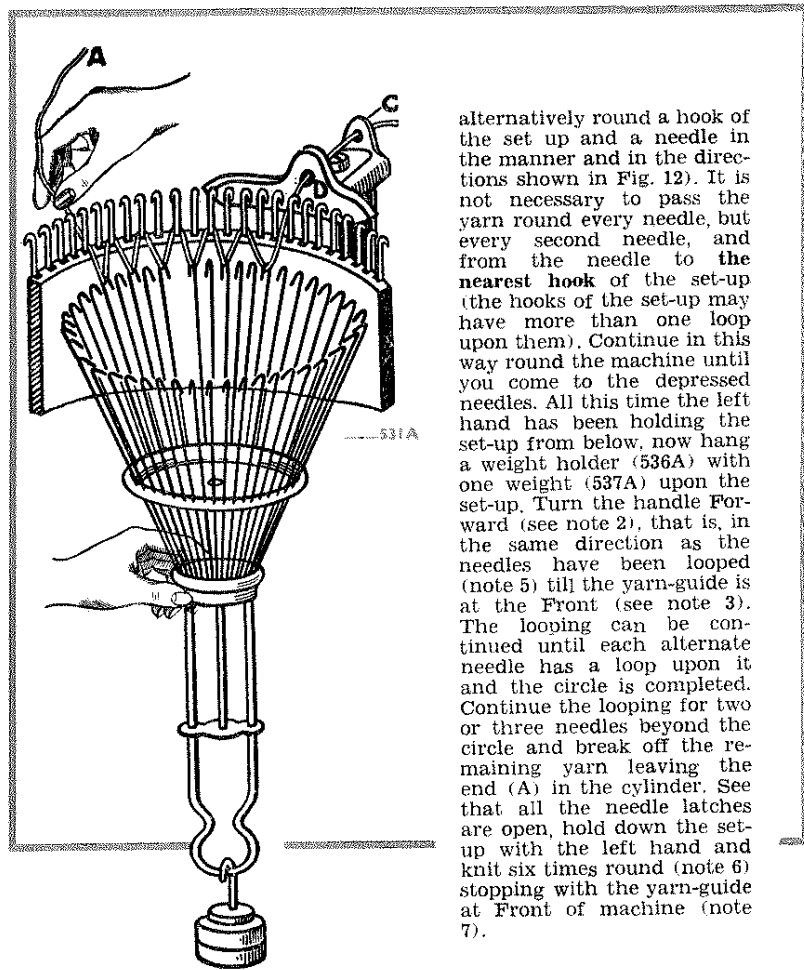

Fig. 12
Place a needle with its latch open, that is, pointing downwards, in each cylinder groove. Set the cylinder pointer (512E) at about 3 for 4-ply fingering wool (note 1). Turn the handle of machine forward (note 2) till the yarn-guide is at the **Back** (note 3) of cylinder. Place a bobbin of wool on the table immediately below one of the rear holes in the yarn cross (517A). Pass the yarn upwards through the holes then through the hole in the yarn cross immediately above the column, under the yarn lock and down through the centre hole to the yarn-guide. Now pass the yarn through C and D of the yarn-guide (Fig. 12). Draw into the cylinder about 1½ yards of loose yarn. Take this in the right hand, and with the left pass the set up (513A, Fig. 12) from below into the cylinder, with the hooks just below the level of the cylinder top (Fig. 12). With the right hand take hold of the loose yarn near to the yarn guide (that is, about 1½ yards from its end A, and pass it
alternatively round a hook of the set up and a needle in the manner and in the directions shown in Fig. 12). It is not necessary to pass the yarn round every needle, but every second needle, and from the needle to the nearest hook of the set-up (the hooks of the set-up may have more than one loop upon them). Continue in this way round the machine until you come to the depressed needles. All this time the left hand has been holding the set-up from below, now hang a weight holder (536A) with one weight (537A) upon the set-up. Turn the handle Forward (see note 2), that is, in the same direction as the needles have been looped (note 5) till the yarn-guide is at the Front (see note 3). The looping can be continued until each alternate needle has a loop upon it and the circle is completed. Continue the looping for two or three needles beyond the circle and break off the remaining yarn leaving the end (A) in the cylinder. See that all the needle latches are open, hold down the set-up with the left hand and knit six times round (note 6) stopping with the yarn-guide at Front of machine (note 7).
Turn handle slowly Forwards and stop when yarn-guide is about opposite the sixth empty groove from the first needle in action on the **Left**. Thread the yarn-guide with the odd yarn as directed in setting up for Circular Work, draw off about a yard of yarn through yarn-guide, pass yarn direct from yarn-guide outside the end or first needle at **Left**, under hook in set-up, then round the first needle, under hook in set-up, round the third needle, back to set-up, so continue missing a needle each time. (See Fig. 12, page 14). When the last needle is reached pass yarn round it and back to a hook of set-up, just as with the others, even though the needle before it has been looped, secure the yarn by twisting it round a hook in the set-up twice or thrice. Attach holder and weights to set-up. Pick up yarn in front of the yarn-grip and put it in hook of take-up, draw slack yarn back to bobbin. See that latches of needles are open, then knit Forwards, sending yarn-guide beyond the end needle at **Right** until that needle has made stitch (that is, rises out of its groove and is level with the others), knit Backwards until the end needle at **Left** has made stitch, continue knitting Forwards and Backwards as many times as required; four rows will be sufficient if a Welt is to be commenced, in that case knit the last row Backwards and send yarn-guide to the **Back**, and stop. The object of sending yarn-guide to the Back is to take the cams out of the way and so allow the needles to be raised out of action.